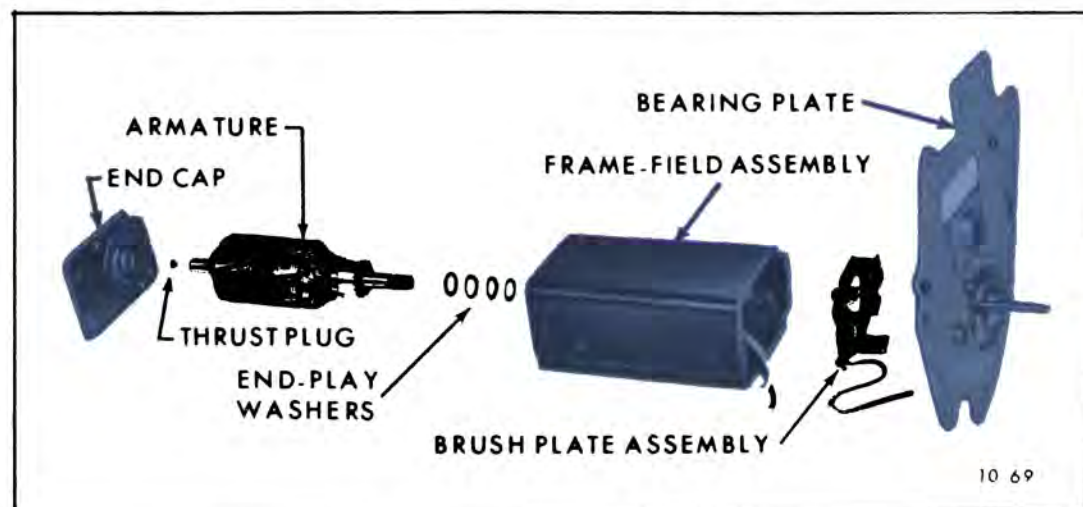

Figure 10-17 Wiper Motor-Exploded View
1. Install replacement parts as required. See Figure 10-17.